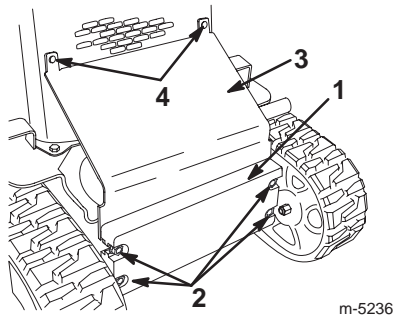

Figure 23
2. Loosen the bolts securing the front weight (Fig. 23).
3. Remove the carriage bolts and nuts securing the heat shield (Fig. 23).
10. Slide the front screen between the frame and the front weight and secure it to the grill using the carriage bolts and nuts removed previously (Fig. 23).
11. Tighten the bolts securing the front weight (Fig. 23).